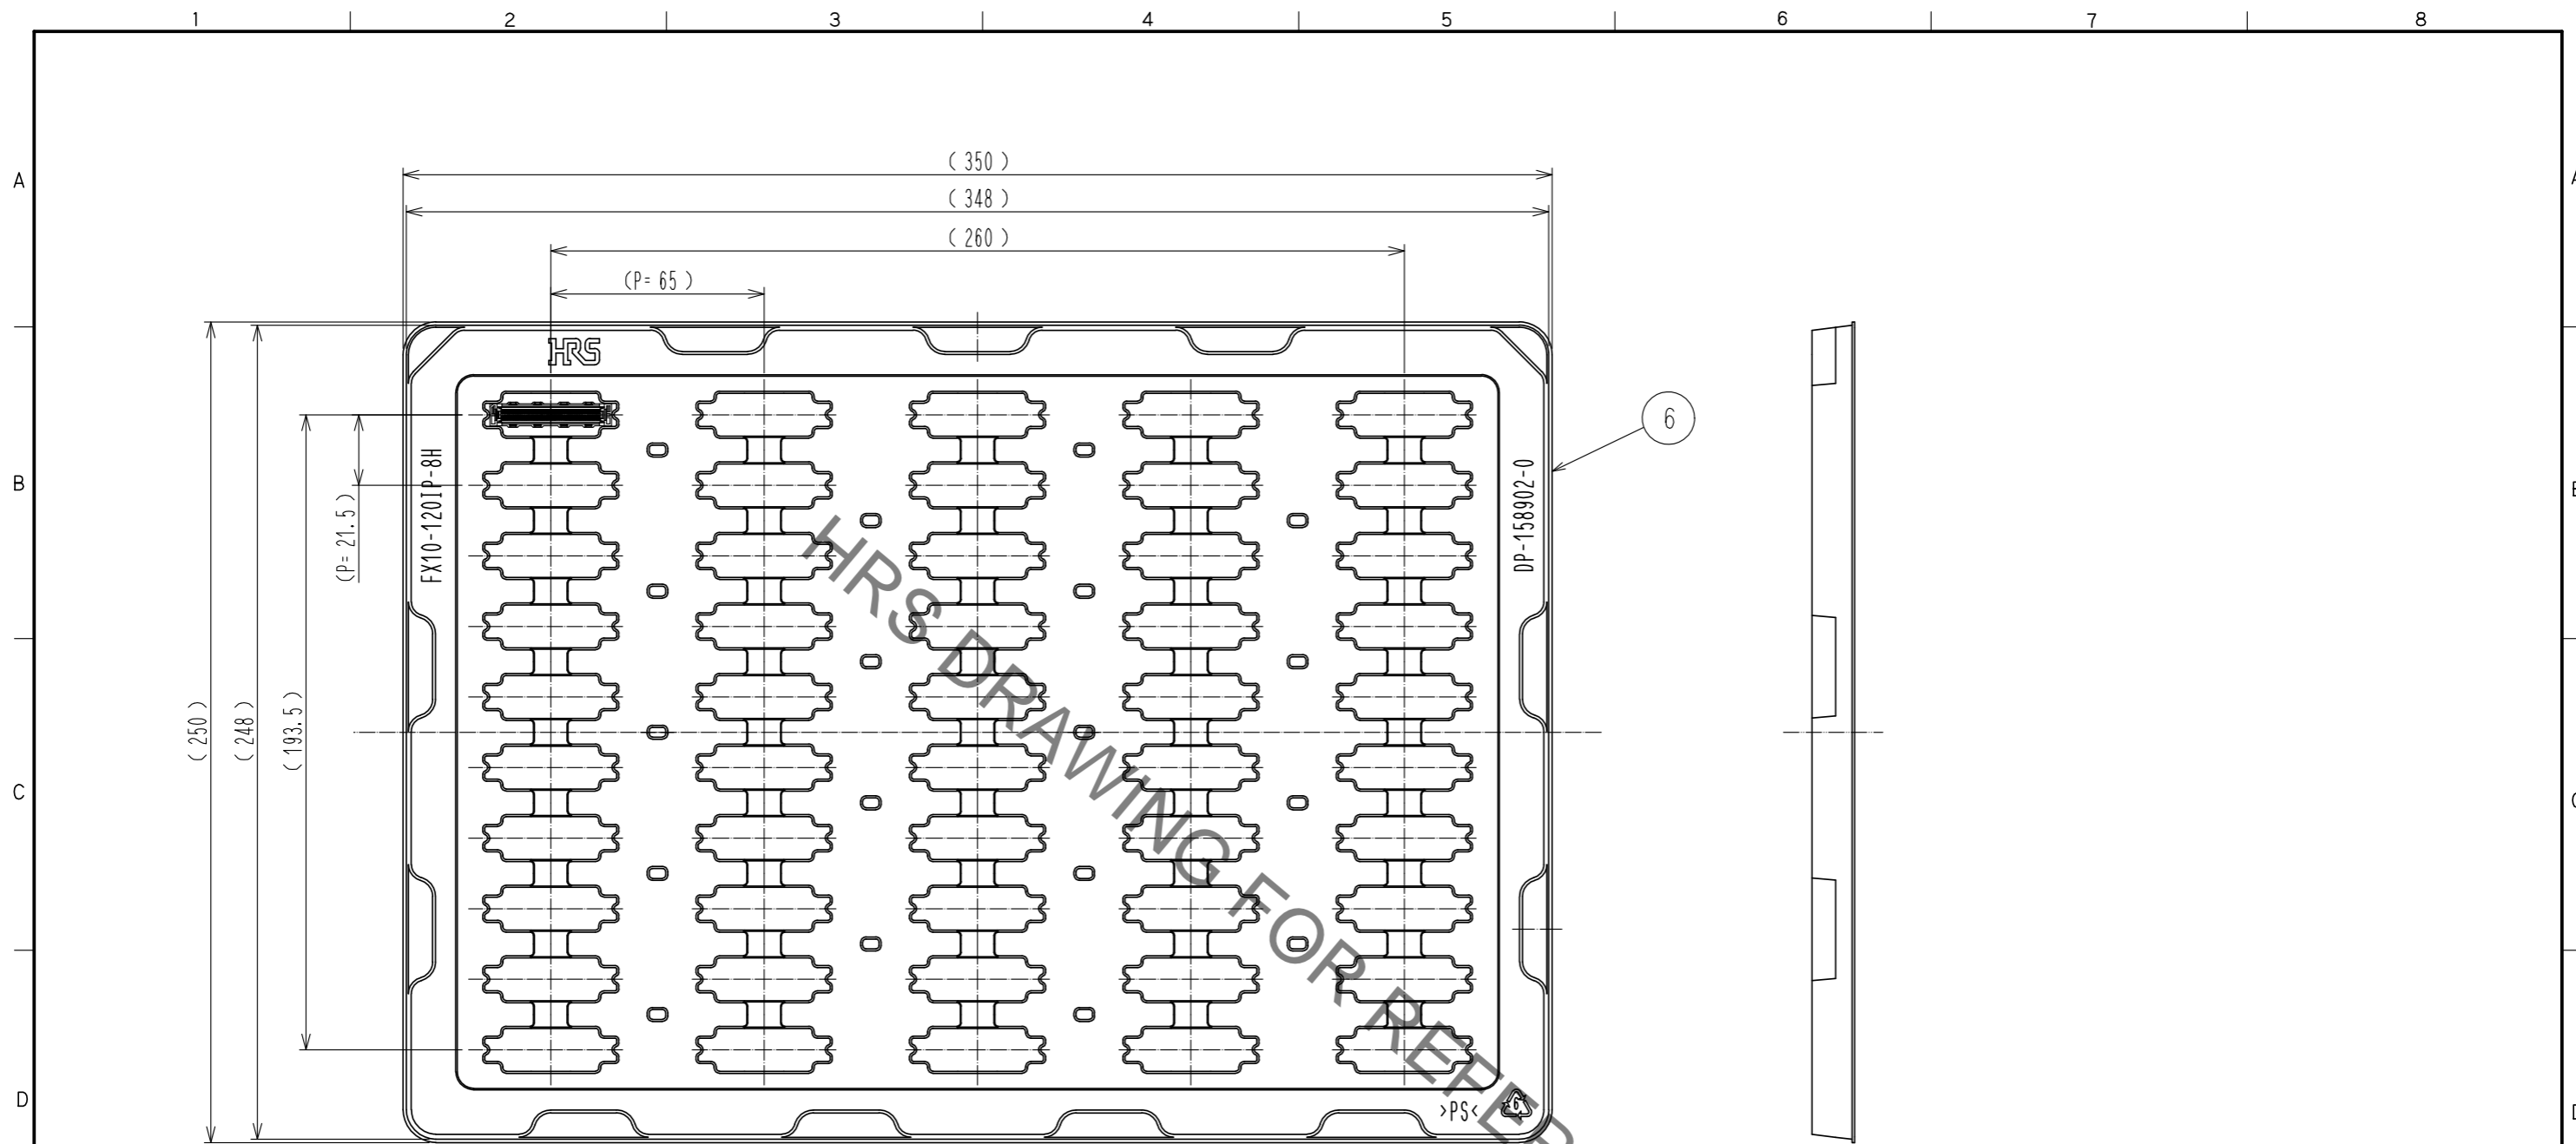

Fig.3 Drawing for packing (1:2)
- [6] 50pcs of this product are packed in soft tray. See Fig.3 for details.